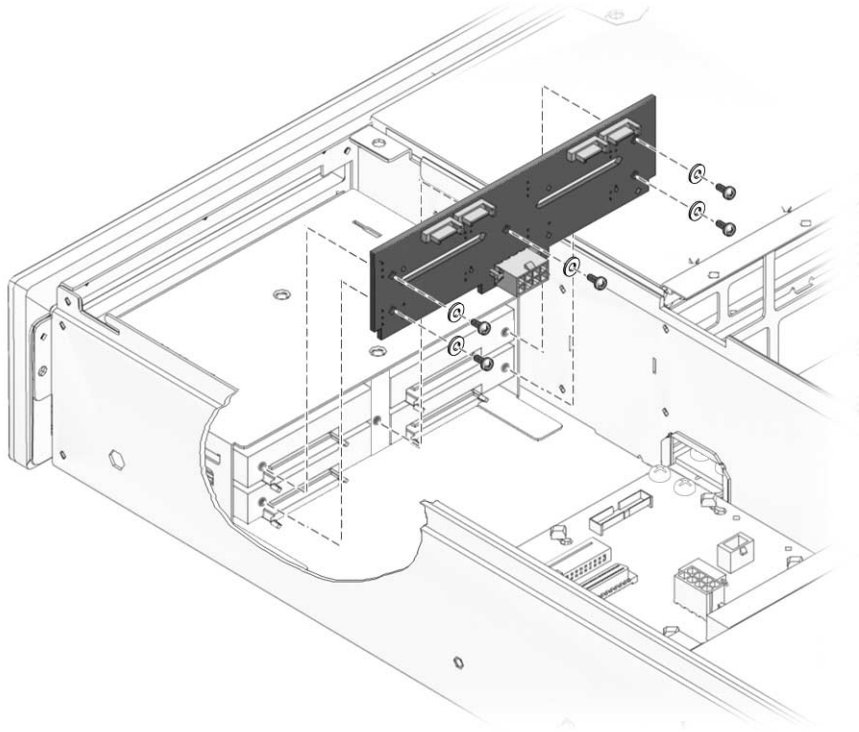

FIGURE 5-26 Replacing the SAS Disk Backplane
3. **Secure the backplane to the drive cage assembly with five insulating washers and five screws (FIGURE 5-26).**